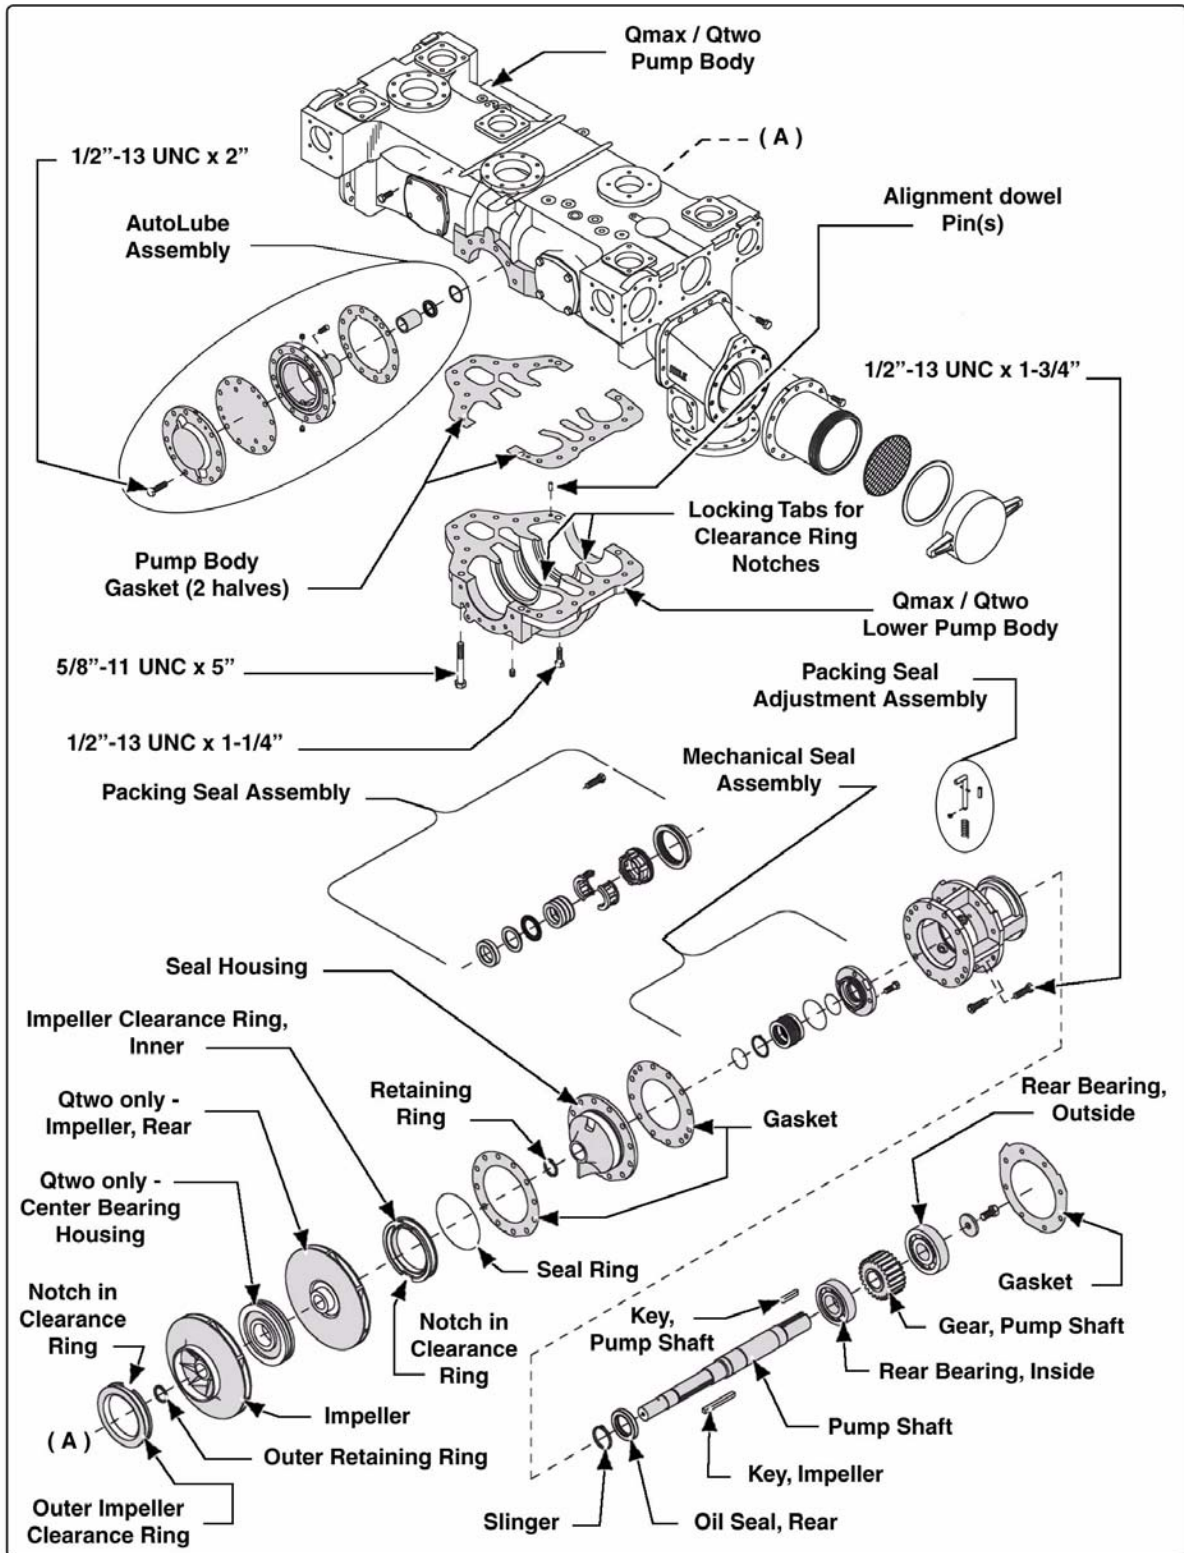

Figure 7-7: Qmax / Qtwo Assembly Overview
THE LOWER PUMP BODY WEIGHS APPROXIMATELY 100 LBS (46 KGS). (SEE FIGURE 7-7: “QMAX / QTWO ASSEMBLY OVERVIEW,” ON PAGE 120.) SUPPORT THE LOWER PUMP BODY AND IMPELLER ASSEMBLY WITH THE PROPER LIFTING DEVICE. FAILURE TO DO SO COULD RESULT IN THE LOWER PUMP BODY AND IMPELLER ASSEMBLY FALLING, WHICH COULD RESULT IN SERIOUS PERSONAL INJURY, OR PROPERTY DAMAGE.
- 1/2”-13 UNC x 2” screws from the “top half” of the AutoLube bearing housing and the pump body. (See Figure 7-7: “Qmax / Qtwo Assembly Overview,” on page 120.)
6. Position the lifting device to support the lower pump body, then remove the 5/8”-11 UNC x 5” screws in each of the four corners of the lower pump body. (See Figure 7-7: “Qmax / Qtwo Assembly Overview,” on page 120.)
3. Remove the outer retaining ring and clearance ring. (See Figure 7-7: “Qmax / Qtwo Assembly Overview,” on page 120.)
Also see Figure 7-7: “Qmax / Qtwo Assembly Overview” on page 120.
4. Install a new gasket on the seal housing face. (See Figure 7-7: “Qmax / Qtwo Assembly Overview,” on page 120.)
6. Using proper lifting device, slowly raise the lower pump body and the impeller assembly into place. Align the lower pump body aligns with the dowel pins and the clearance ring notches with the clearance ring lock tabs in upper pump body. (See Figure 7-7: “Qmax / Qtwo Assembly Overview,” on page 120.)